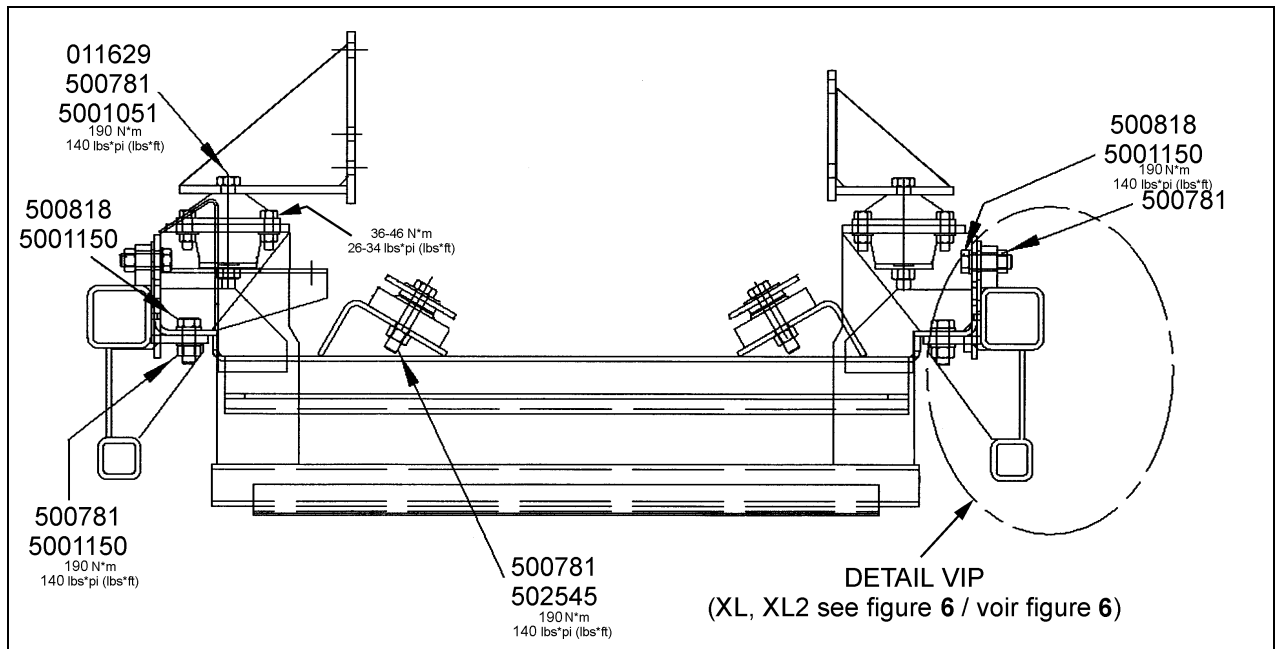

FIGURE 7 : ENGINE CRADLE HARDWARE AND TIGHTENING TORQUES
17. Reinstall the engine onto the new cradle and bolt in place. Respect the tightening torque shown in figure 7. Remove the Detroit Diesel special engine support.